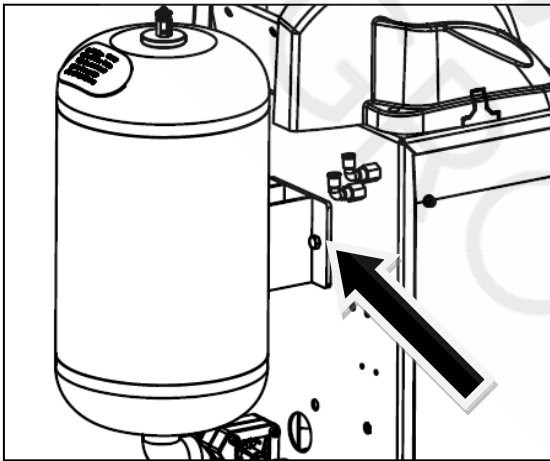

FIG4
- Remove the side panel and use 2 pcs M8x20 bolts, flat washer and elastic washer and nut to fix the air tank in main body of machine. Like the picture fig4.